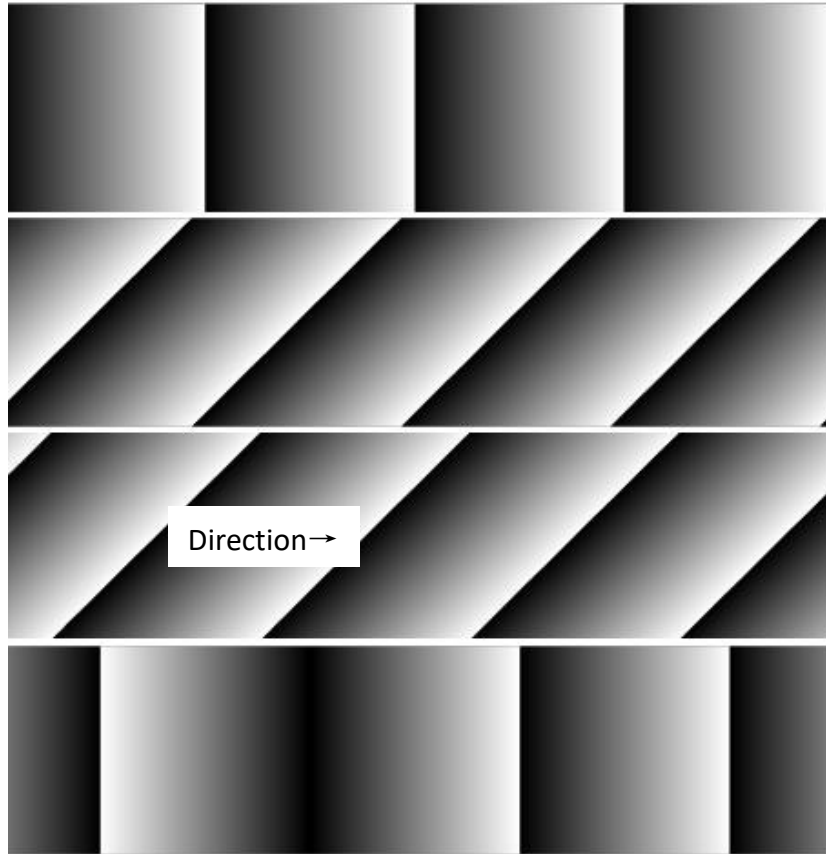

Fig. 6-4-4
- ◆ TestPattern: Sensor raw data output, supporting horizontal grayscale gradient, bevel grayscale gradient, bevel grayscale gradient movement, and sensor test image; as shown in Fig. 6-4-4.